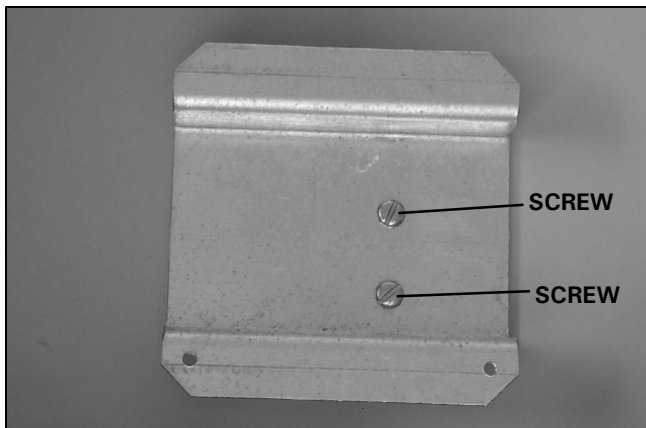

Figure 82. TVSS Mounting Bracket Secured to the Back of the Enclosure.
- Step 2:** Align the TVSS Mounting bracket with the existing holes in the back of the enclosure, located above the back plate. Secure the mounting bracket to the enclosure using the hardware provided and a flat blade screwdriver (see Figure 82).